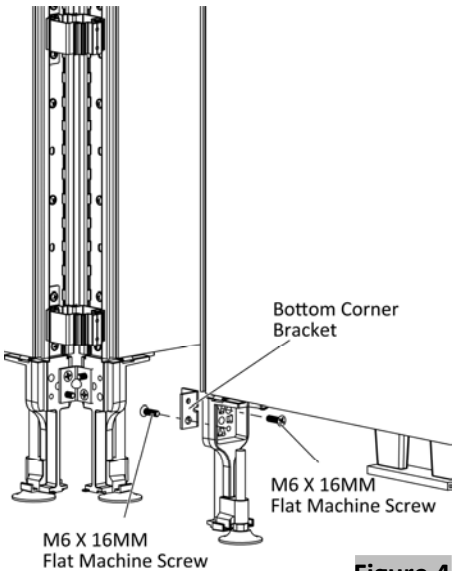

Figure 4
- 8. Securely fasten corner bracket of third panel with two M6 X 16MM, Flat Machine Screws, (Figure 4).